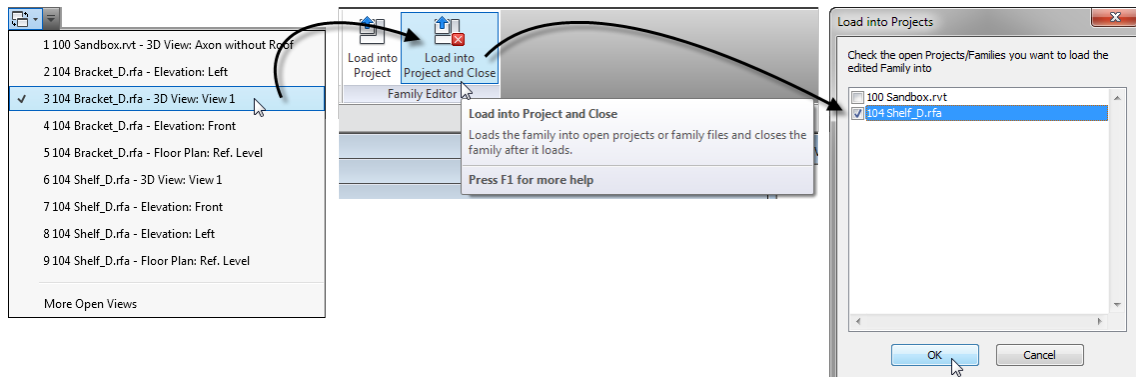

Figure 24
4. In the dialog that appears, check the **Shelf** family only (*not the Sandbox*) and then click OK (see Figure 24).